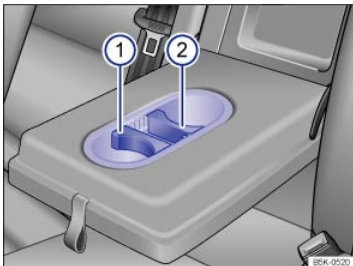

Fig. 142 Cup holders in the rear center armrest (version 2).
- Some cup holders have inserts that can be positioned to hold beverages of different sizes ⇒ Fig. 142. To adjust the cup holder to the size of the cup, pull the inserts ① or ② upward and reposition them to fit the size of the cup.